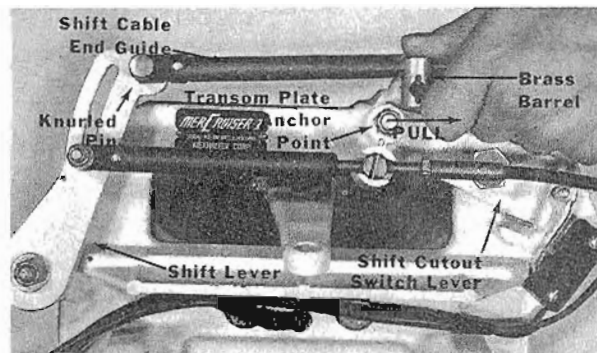

Figure 6. Adjusting Brass Barrel
- c. Anchor remote control shift cable end guide to shift lever with knurled pin. (Figure 6) Pull outer conduit away from cable guide, as far as possible, and adjust brass barrel on remote control shift cable to align with mounting hole in transom plate anchor point.